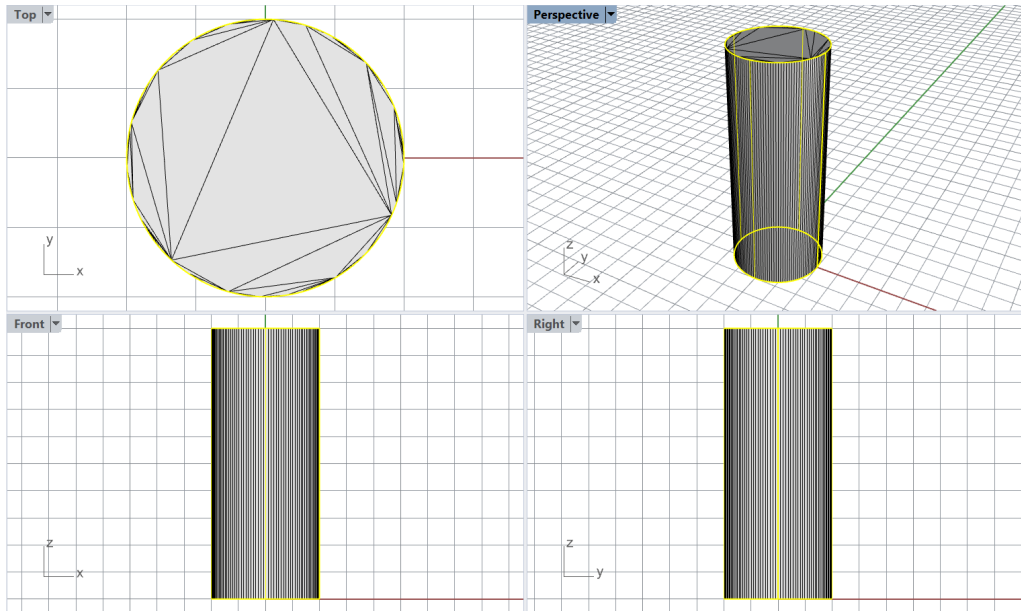

Figure 2: Original highlighted cylindrical surface and the newly created surface mesh superimposed on it.
5. In the simplified dialog, move the slider all the way to the right towards **More polygons** and click **OK** to create the initial surface mesh (Figure 2).
6. While the original cylindrical surface is still highlighted (seen in light yellow in Figure 2), type the **\_Hide** command to hide it, making only the surface mesh visible. This triangular surface mesh serves as input to *Griddle* tools for unstructured meshing.